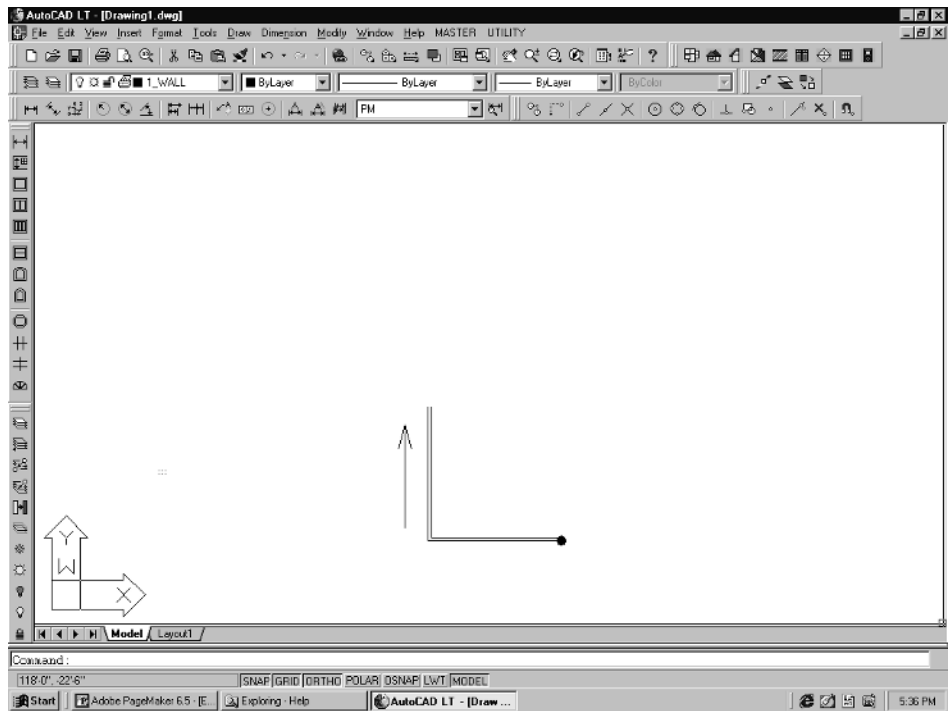

Figure 6-10
7. You can also use direct distance entry to draw the wall lines. To use this method, first pick the start point. Then, pull your cursor in the direction of the wall line and type in the distance. For this tutorial type in **20'** for the first wall. The wall line will be drawn. Now, pull your cursor up and type **20'**. The second wall line will be drawn, as shown in Figure 6-10.